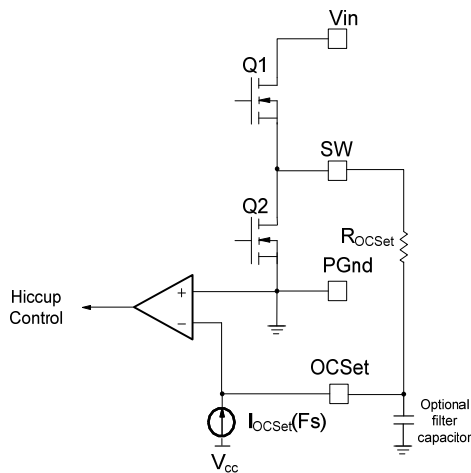

Fig. 7. Connection of over current sensing resistor
The over current protection is performed by sensing current through the R_{DS(on)} of the sync FET. This method enhances the converter's efficiency and reduces cost by eliminating a current sense resistor. As shown in figure 7, an external resistor (R_{OCSet}) is connected between OCSet pin and the switch node (SW) which sets the current limit set point.